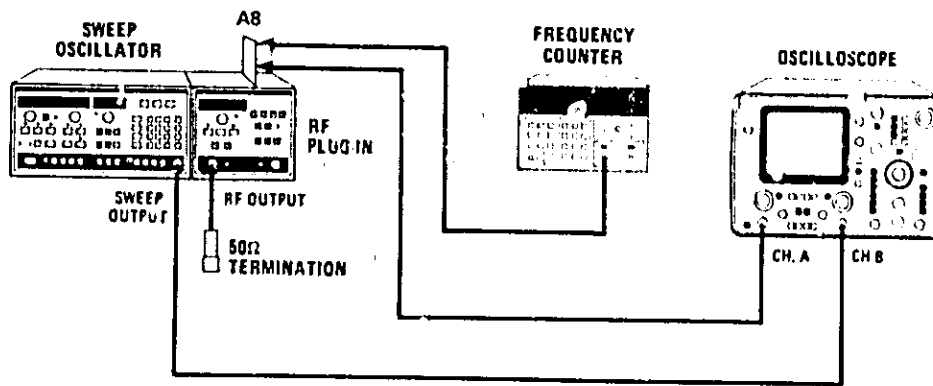

Figure 5-32. Marker Adjustments Test Setup
1. Place A8 assembly on extender board. Connect equipment as shown in Figure 5-32. Terminate 83522A RF output in 50 Ohms. Set 1740A Oscilloscope to A vs. B sweep mode to obtain horizontal deflection as a function of the 8350A SWEEP OUT.